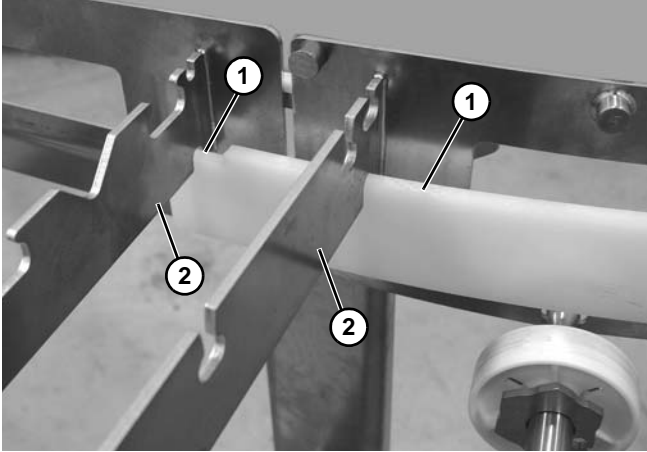
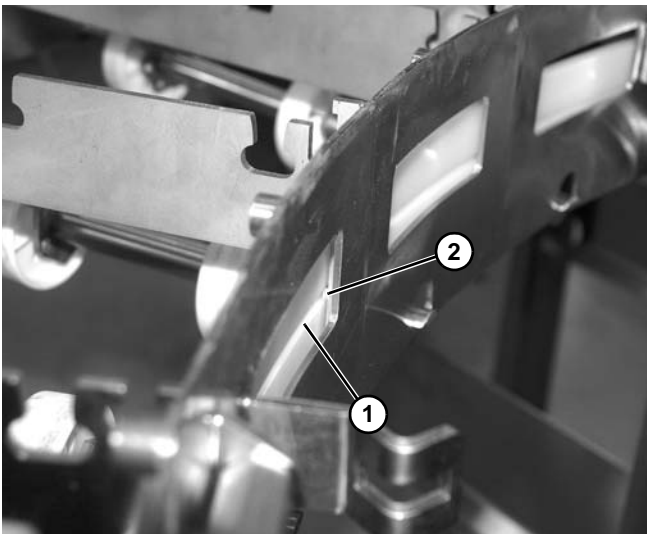

Figure 54
Figure 55
3. Install new inner curve wear strip, engaging top (Figure 54, item 1) of wear strip with frame rails (Figure 54, item 2), and making sure that slot (Figure 55, item 1) of wear strip is engaged with frame tabs (Figure 55, item 2).